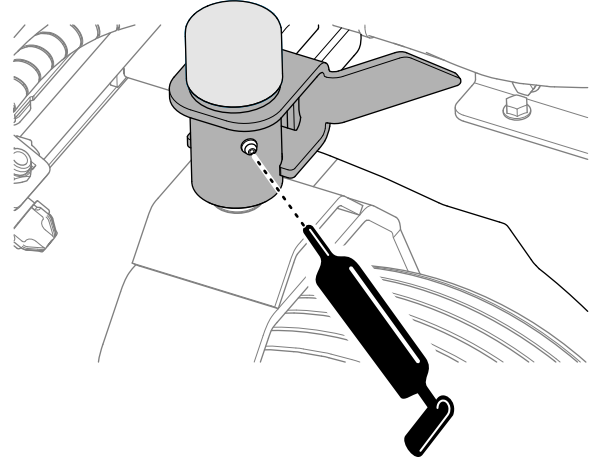

Figure 65
2. Wipe the grease fittings at caster clean with a rag (Figure 65).
3. Connect a grease gun to the fittings (Figure 65).